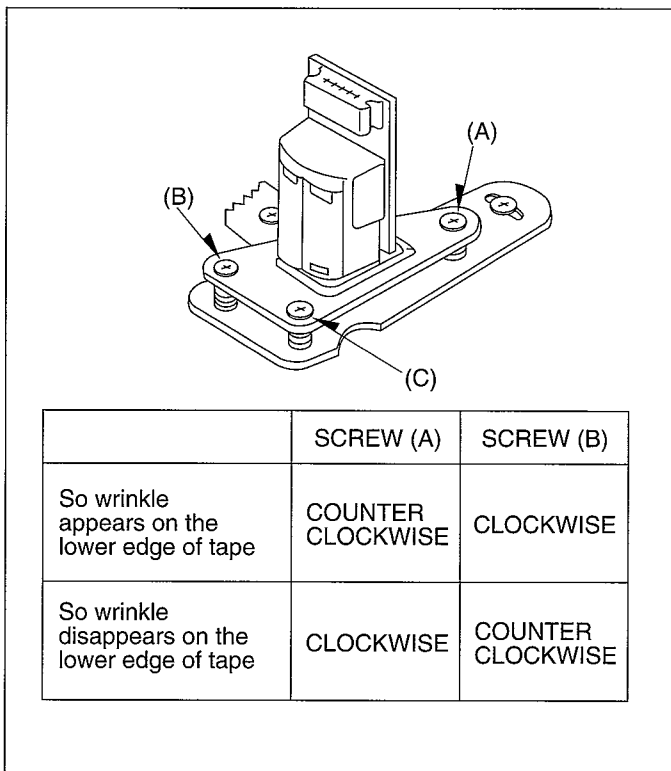

Fig. M11
- (1) Install A/C Head on the Mechanism Chassis by one screw.
- (2) Playback the Alignment Tape.
- (3) Rotate the screw (A) or (B) until the wrinkle appears on the lower edge of tape at P4 Post.
- (4) Rotate the screw (A) or (B) until the wrinkle just disappears on the lower edge of tape at P4 Post.
- (5) Connect the oscilloscope to audio output terminal.
- (6) Rotate the screw (C) until audio signal is maximized.
- NOTE: 1 The relation between the rotation direction of screws (A) and (B) and the condition of wrinkle on the lower edge at P4 Post as shown in Fig. M11.